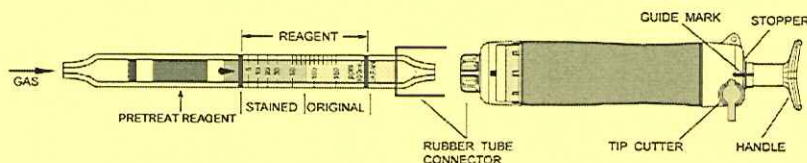

Fig.1
- ② Insert the detector tube into the aspirating pump securely as shown in Fig.1. (Arrow mark shall point to the pump.)
- ③ Align the guide marks on the shaft and stopper of the aspirating pump.
- ④ Pull the pump handle at a full stroke until it locks and wait for 2 minutes or until the completion of sampling is confirmed with the flow indicator of the pump. (See descriptions about the flow indicator in the instruction manual of the pump.)
- ⑤ On completion of sampling, read the scale at the maximum point of the stained layer.
- ⑥ When the concentration is over the scale range, a 1/2 pump stroke can be used to determine concentrations of 10 to 300 ppm.